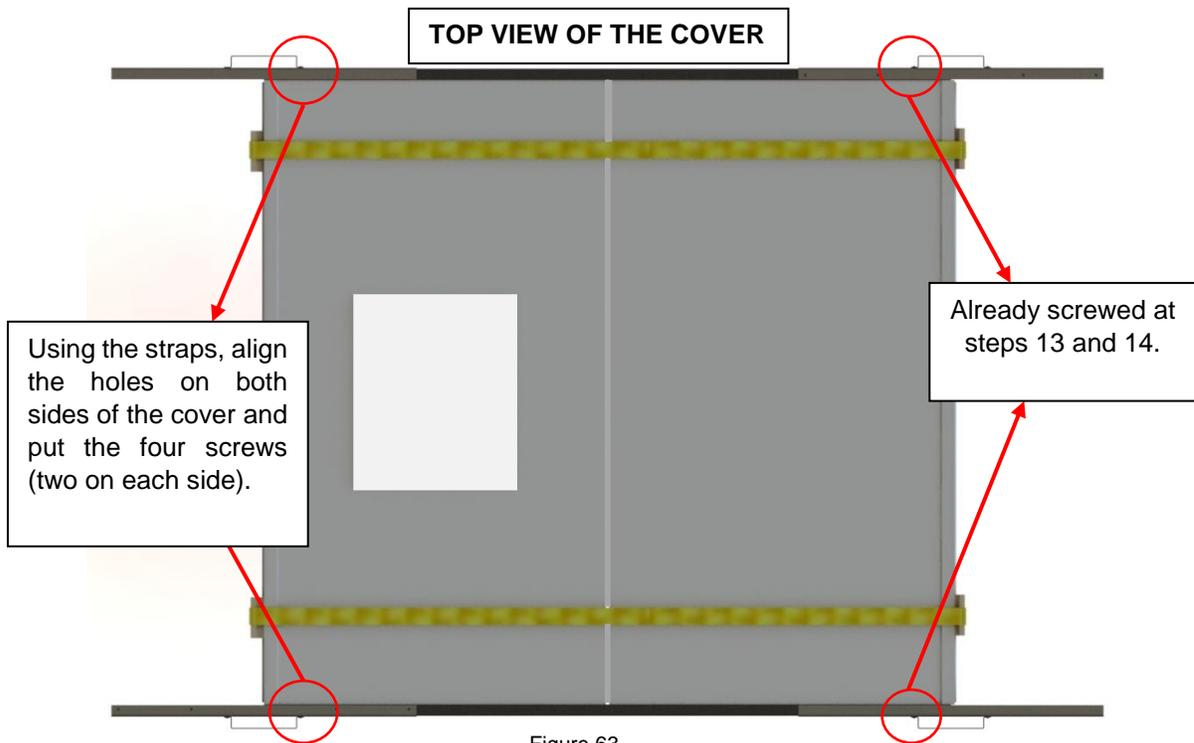

Figure 63
19) Repeat steps 17 and 18 for the opposite side of the cover (Figure 63).